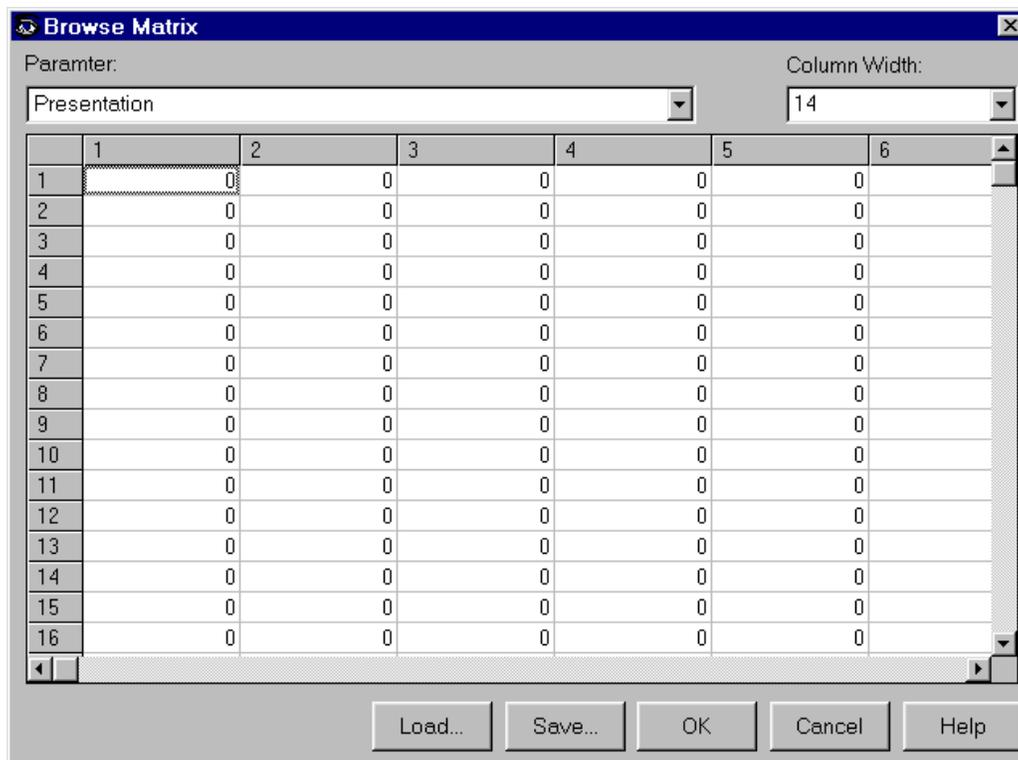

Fig. 1.10 The **Browse Matrix** dialog box
2. Choose **Matrix...** from the **Value** menu (or Press Ctrl+B). The **Browse Matrix** dialog box appears (Fig. 1.10). Each cell of the spreadsheet corresponds to a model cell in the current layer. You can load an ASCII Matrix file into the spreadsheet or save the spreadsheet in an ASCII Matrix file by clicking **Load** or **Save**. Alternatively, you may select the **Results Extractor** from the **Value** menu, read the head results and use an additional **Apply** button in the **Results Extractor** dialog box to put the data into the **Presentation** matrix.